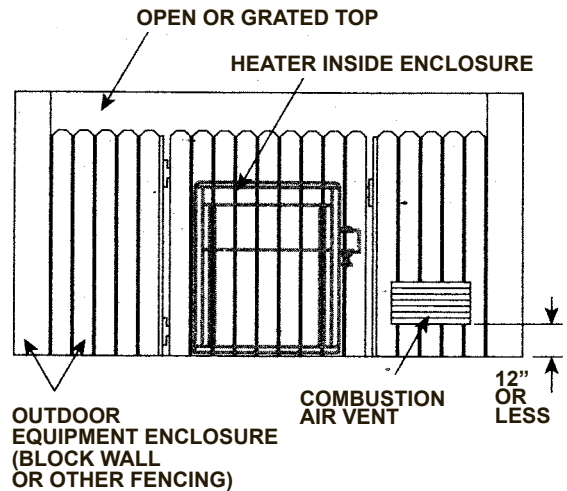

Figure 11: Outdoor Enclosure
10. Any enclosure around the heater must provide a combustion air vent commencing within 12 inches of the bottom of the enclosure. The vent opening shall have a minimum free area of 1 square inch per 4,000 BTU per hour of total input rating of all heaters in the enclosure. See Figure 11.